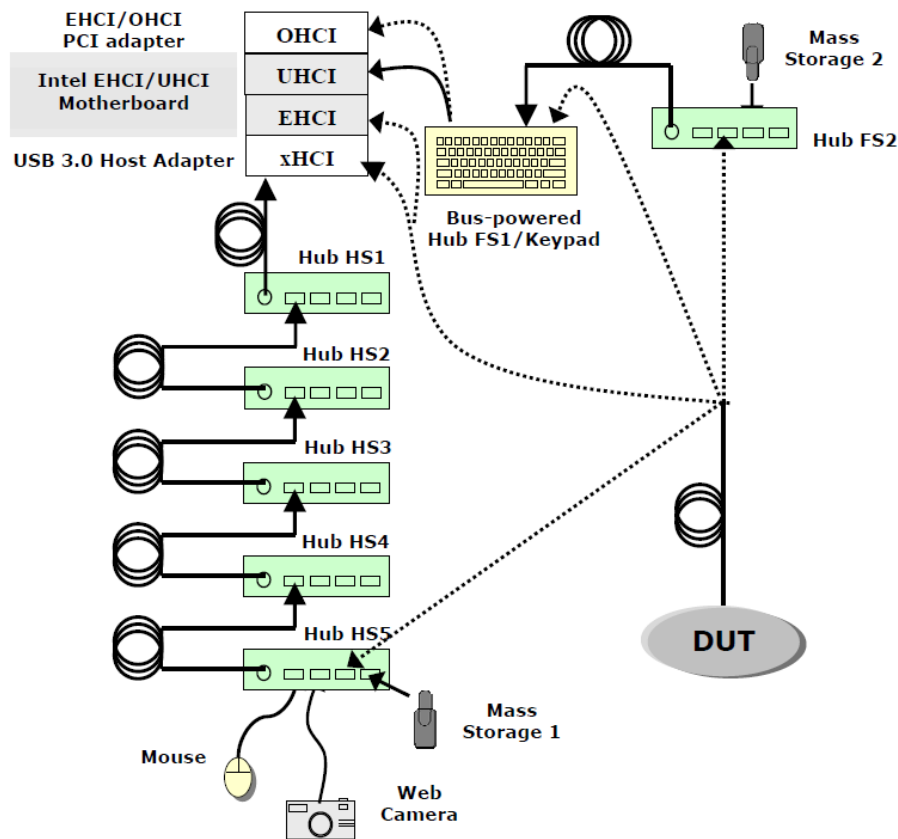

Figure 94. Interoperability Test environment
1. Construct a tree of USB devices as shown in Figure 94. Attach the Hub HS1 to a root port on the **EHCI** motherboard. Attach the gold tree, via hub HS2, to hub HS1.